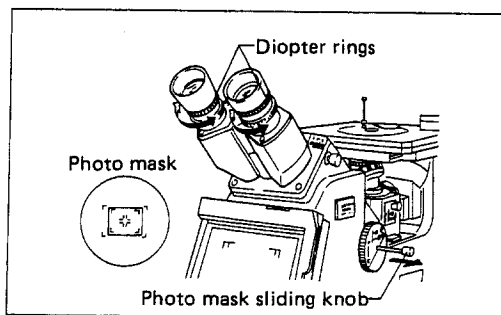

Fig. 5
- ① Pull the photo mask sliding knob up to the limit to bring the photo mask into the optical path.
- ② Turning the diopter ring on each eyepiece, until the crossline image appears sharp. Do this adjustment for right- and lefthand eyepieces. (Fig. 5)